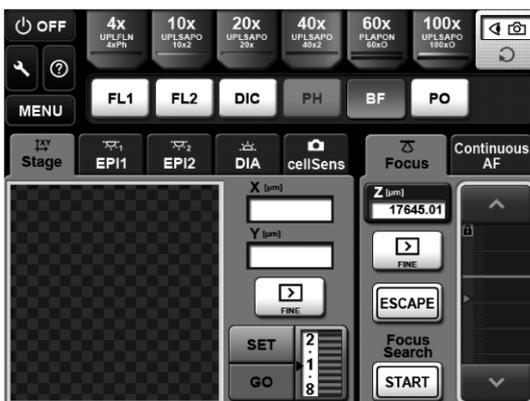

Fig.3
- o Be sure to start cellSens while the menu window (Fig.2) is displayed on Touch Panel Controller or while the operation window (Fig.3) is displayed by tapping the [Start Operation] button (a) on the menu window.